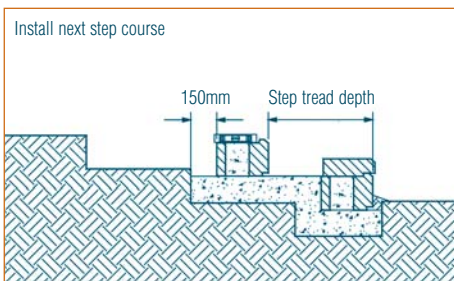

Figure 21: Step 4
- Repeat this process for each additional course of steps needed (figures 21 & 22).